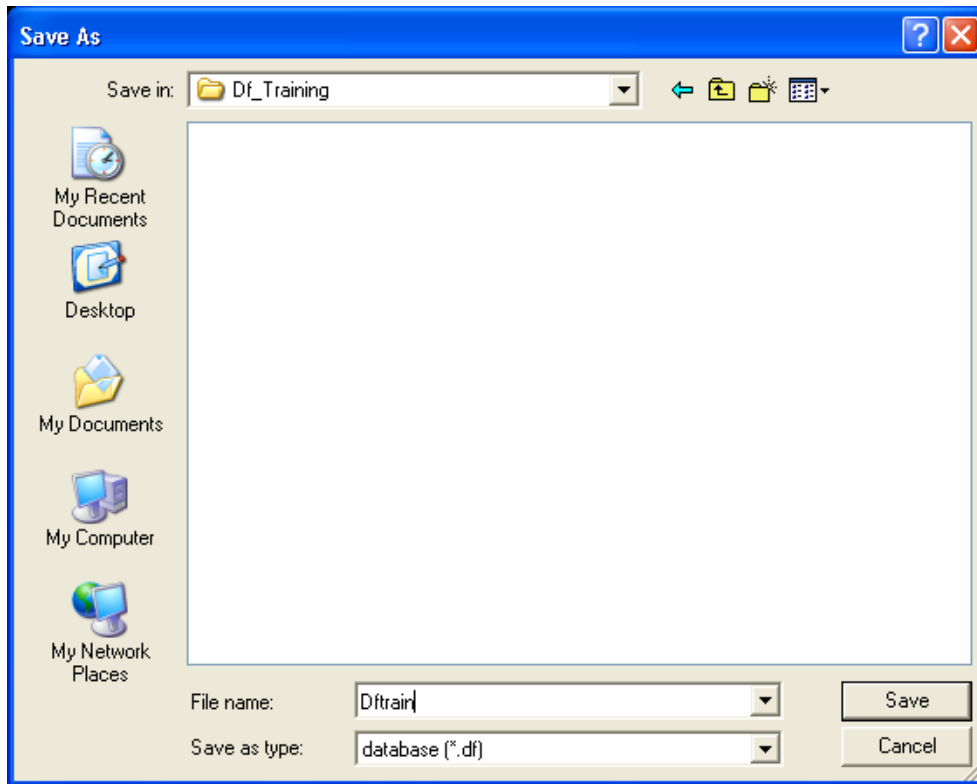

Figure 3: Save as dialog window
2. Save the database to the designated working directory. Go to **File**⇒**Save as** to open the dialog window illustrated in Figure 3. Then, type “**dftrain.df**” in the File name input field, and select **Save** to dismiss the dialog window.